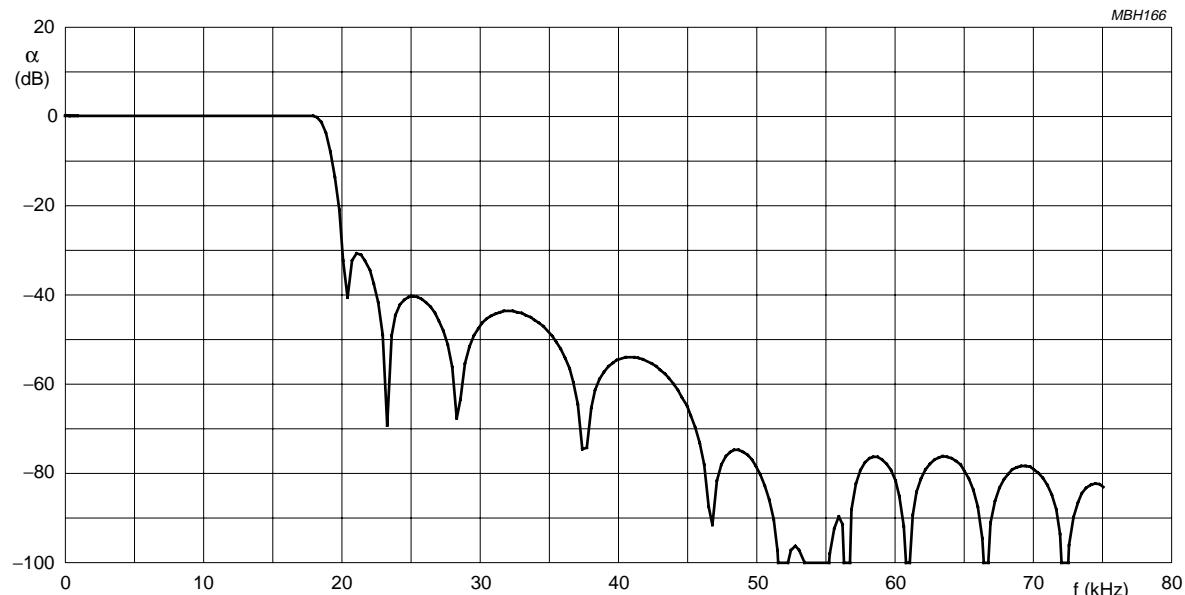

Fig.5 Transfer of MPX signal at the output of the stereo decoder.
- 'Left' and 'Right': This is the 18-bit output of the stereo decoder after the matrix decoding. For AM reception, the 'Right' signal contains the AM-mono signal. For tape or auxiliary signals, the output of the stereo decoder contains sum and difference signals, but with other crosstalk properties than on FM. Therefore, a different matrix correction, as shown in Table 1, has to be applied to these signals in the DSP program. The overall frequency response of the demultiplexed signal at the output of the stereo decoder is illustrated in Fig.5.
A schematic diagram of the input selection is illustrated in Fig.5. The input selection is controlled by bits in the input selector control register. The relationship between these bits and the switches is indicated in Table 2.